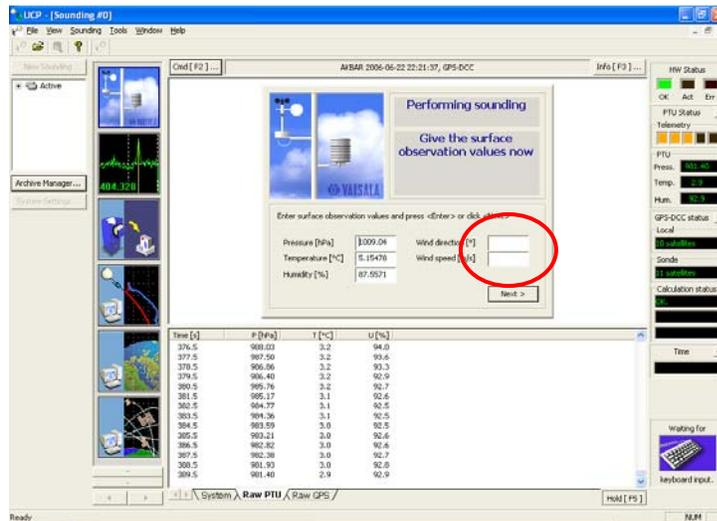

Figure 13
50. When you get back to the computer, you should see the following screen (Figure 13):